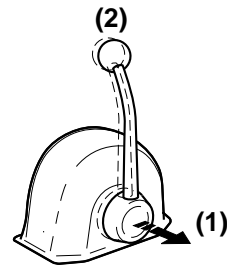

Figure 17
When the lever is pulled out (**Figure 17, (1)**), the engine speed can be controlled without engaging the clutch. The clutch remains in NEUTRAL, no load position. Turn the knob (**Figure 17, (2)**) counterclockwise to move the lever or clockwise to lock the lever.